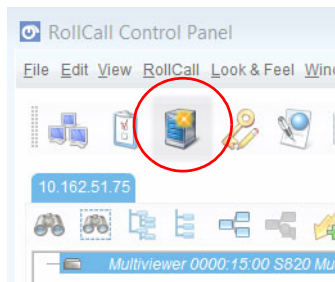

Fig. 8-5: Import New Upgrade Icon
- 3 Click the **Import New Upgrade** icon, see Figure 8-5.